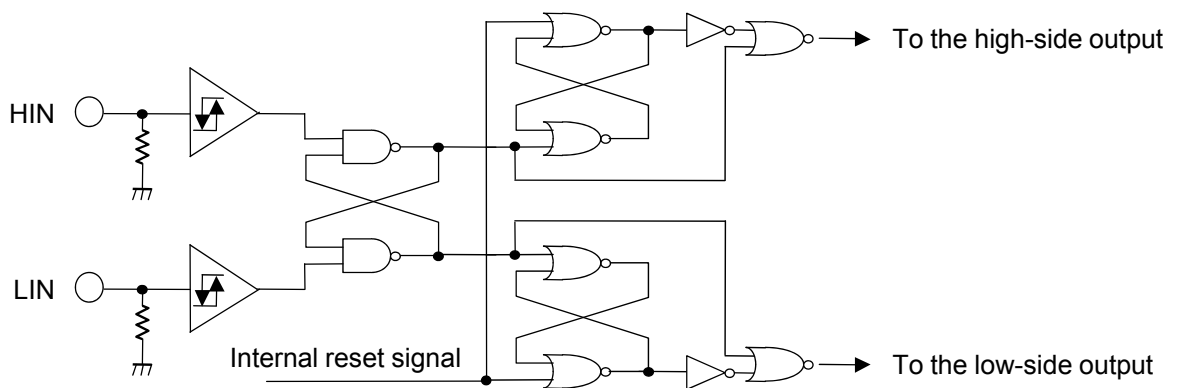

Fig.13 Interlock circuit (Output-maintaining type)
② Interlock for maintaining the high/low-side outputs in response to the input of simultaneous turn-on signals
When HIN = LIN = “high” (ON), the logic circuit shown in Fig.13 keeps the high-side and low-side outputs in the same state as before the input of simultaneous turn-on signals thus preventing arm short of power semiconductors (IGBT/MOSFET).